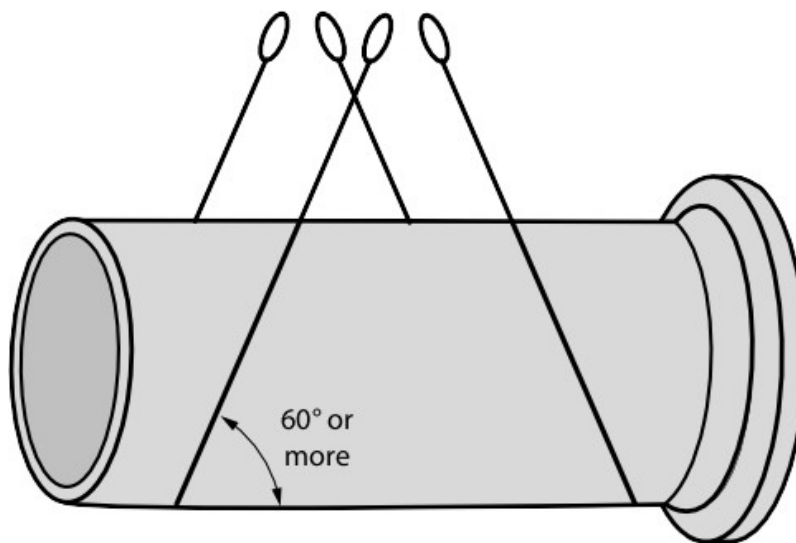

Figure 9 Lifting reinforced concrete pipe section
- Figure 9 Lifting reinforced concrete pipe section by ITA is licensed under a CC BY-NC-SA licence (<https://creativecommons.org/licenses/by-nc-sa/4.0/>).